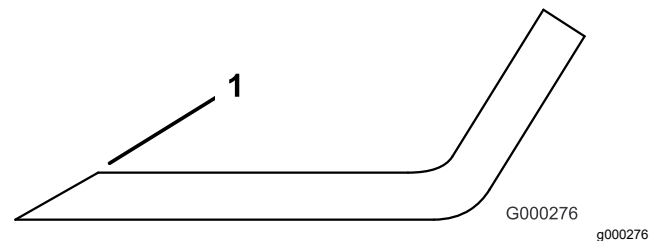

Figure 89
3. Examine the cutting edges of all of the blades and sharpen the cutting edges if they are dull or nicked (Figure 89).
Note: Sharpen only the top of the cutting edge and maintain the original cutting angle to ensure sharpness (Figure 89). The blade remains balanced if you remove the same amount of metal from both cutting edges.